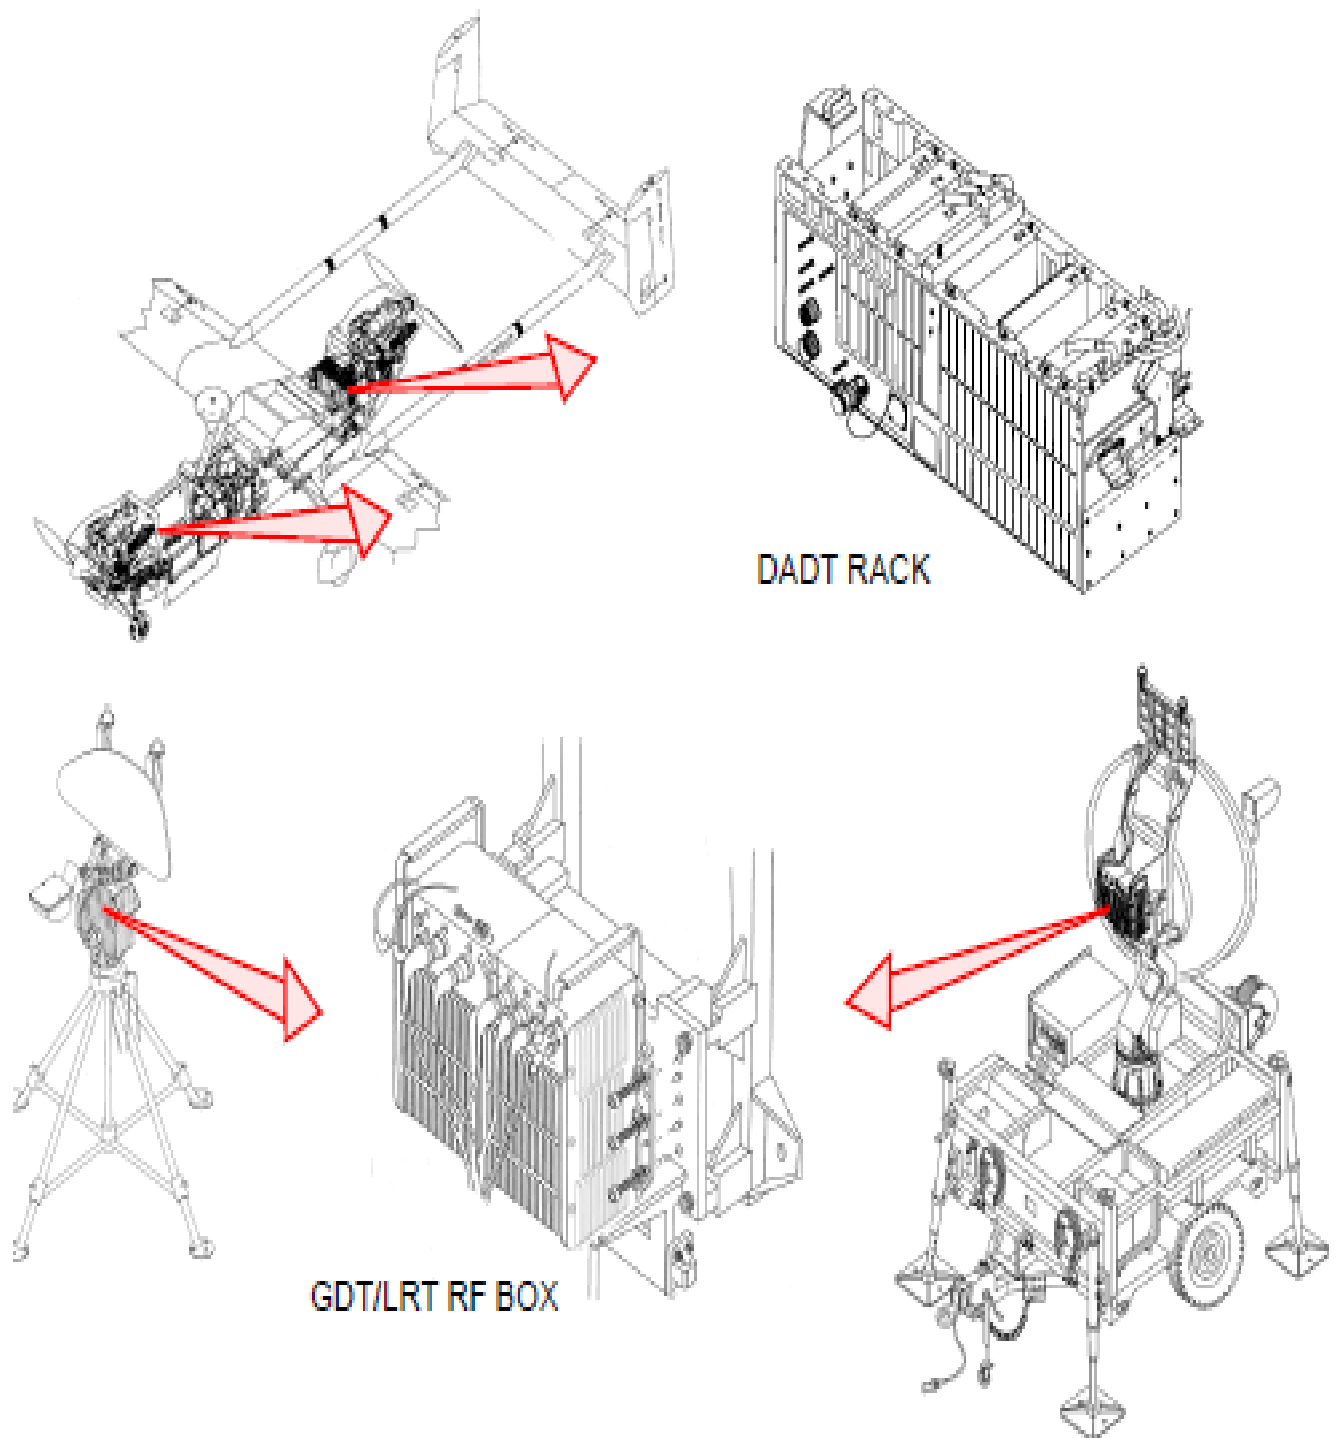

Figure 3-1. Data Link Main Components.
h. The system functions are implemented in the data link modules located in the airborne data link communication racks, a.k.a DADT baskets (**fig. 3-1**), and in the GDT/LRT RF Box.